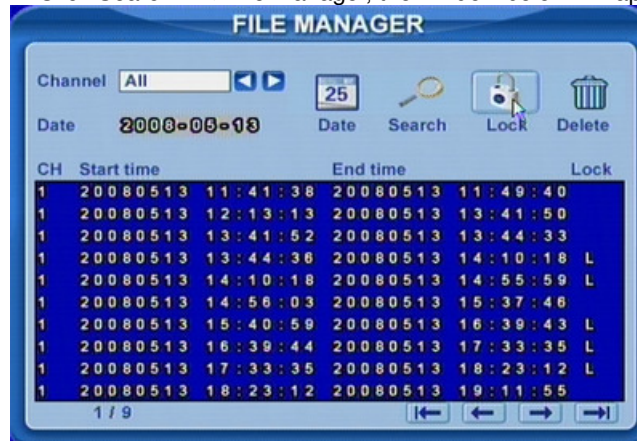

Fig 5.9 File Manager
STEP4 Select the files and click Lock, it will lock the selected files. At this time, a letter "L" will be displayed at the end of the file rows as in Fig 5.9 File Manager.